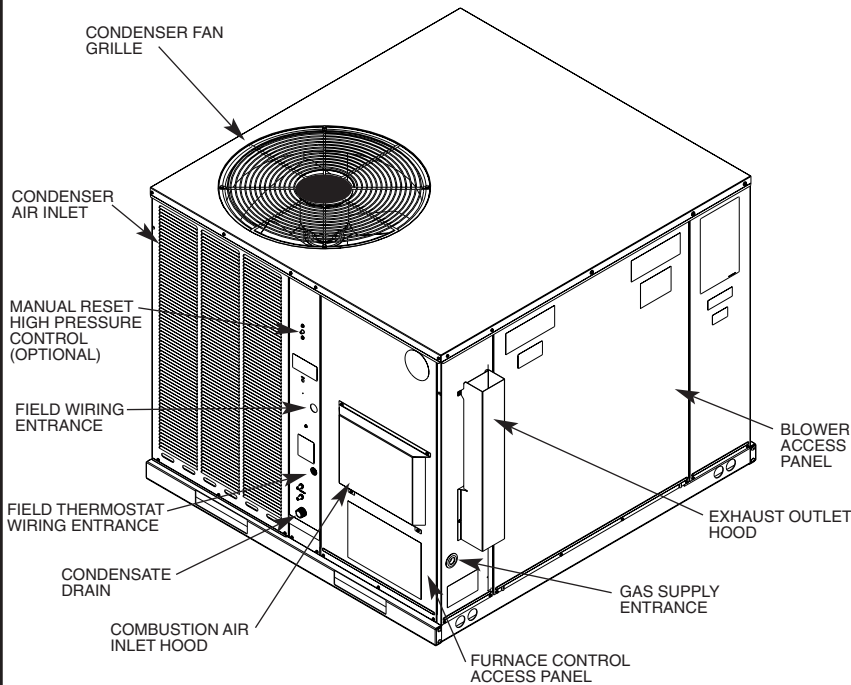

FIGURE 1. 1 1/2 - 5 RESIDENTIAL MODELS
2. Do not block the combustion air inlets or the exhaust air outlet openings. See Figures 1 and 2.